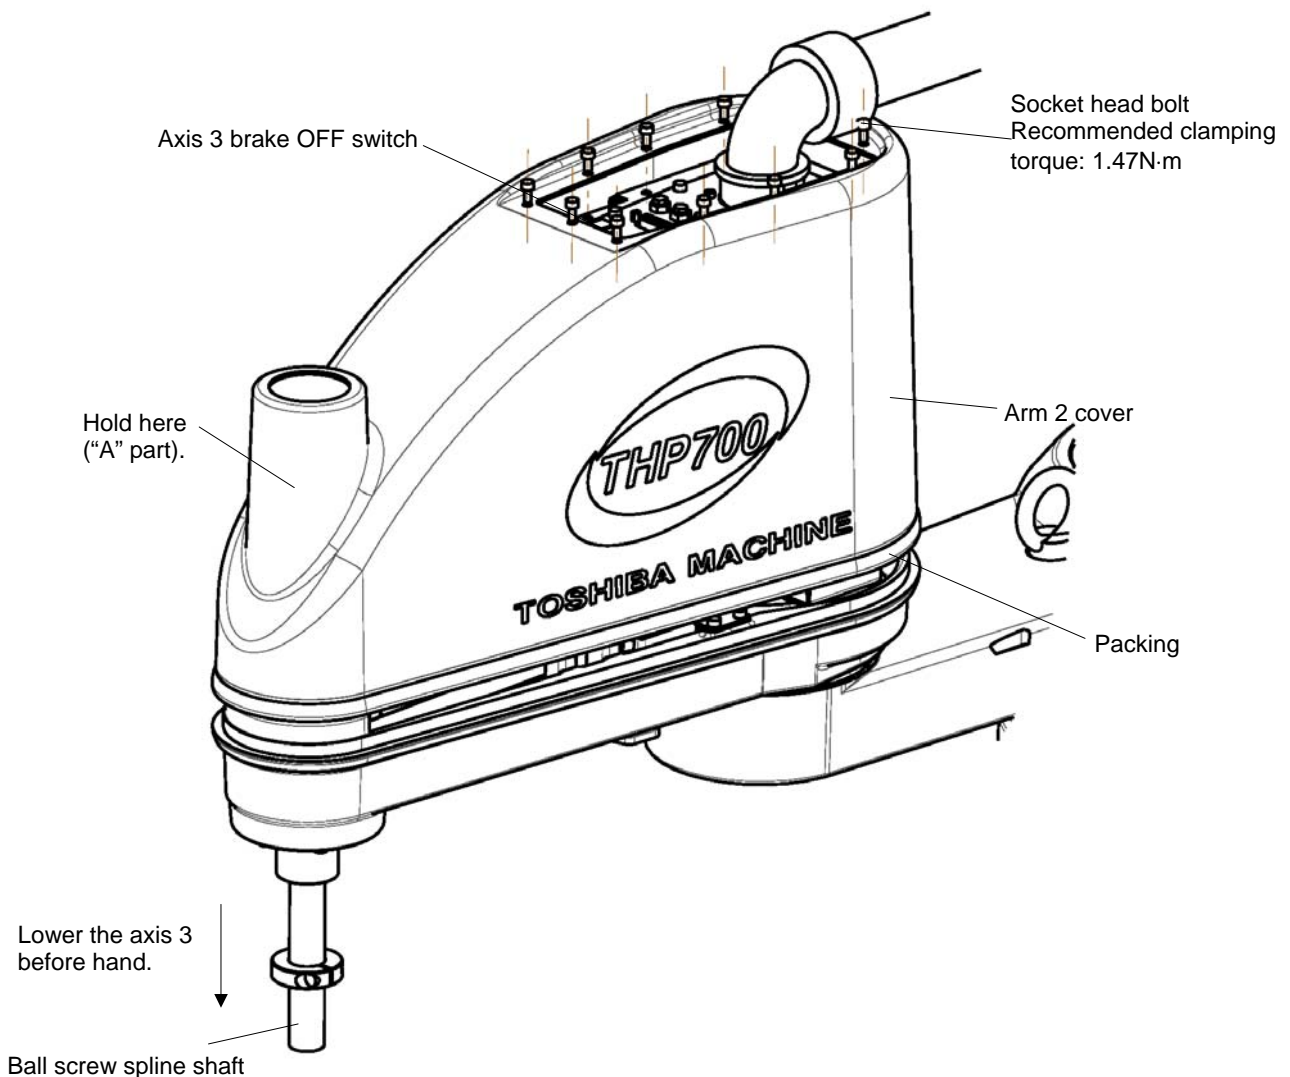

Fig. 2.6 Arm 2 cover
The arm 2 cover is secured to the cover set bracket with eleven (11) socket head bolts (M4x8). As the arm 2 cover is inserted into the arm 2, it can be lifted once the screws are removed. The inserted unit may not be disengaged easily, however. When this happens, it is recommended that the axis 3 be lowered beforehand until the ball screw stopper enters the cover so that you can hold the ball screw hole ("A" part in Fig. 2.6) when lifting up the cover. The packing attached to the cover can be disconnected together with the cover.